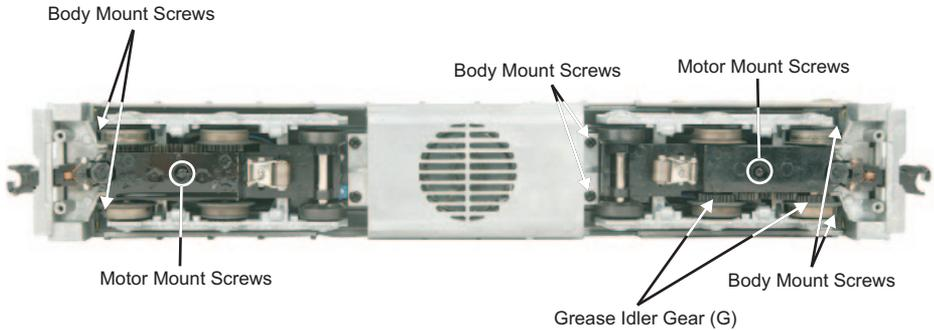

Figure 5. Body Removal Screw Locations
1. To access the gear box, remove the cab from the chassis by unscrewing the body mount screws as seen in Figure 5 and lifting the cab from the chassis.
2. Once the cab is removed, remove the trucks by unscrewing the black Phillips motor mount screw located on the underside of the drive trucks (see Figure 5).
If you experience poor or no smoke output when the smoke unit is on and has fluid, check the wick to see if it has become hard, blackened, and unabsorbent around the heating element. After removing the locomotive body from its chassis (See Figure 5), remove the smoke unit inspection cover (see Figure 9). After removing the inspection cover screws, lift the inspection plate away and inspect the wick. If it is darkly discolored and hard, it should be replaced.